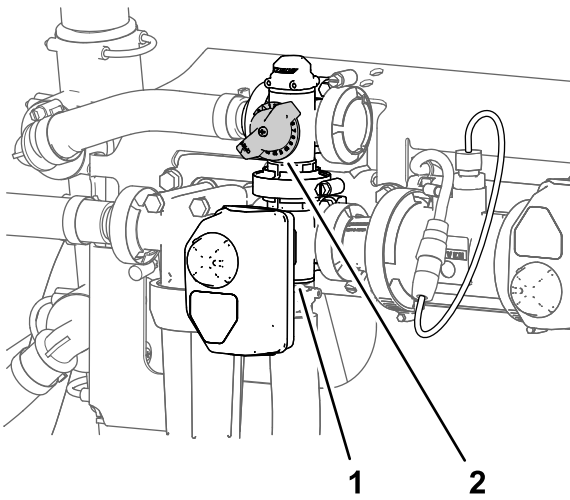

Figure 28
11. Adjust the agitation-bypass valve (Figure 28) on the backside of the agitation valve until the sprayer system pressure indicated on the gauge indicates 689 kPa (100 psi).